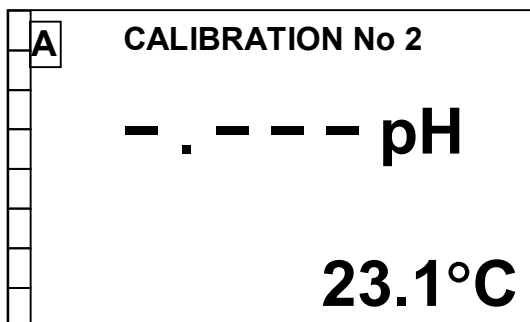

Fig. 2.6
- 9 Place electrodes and temperature sensor in fresh second buffer solution. Press the  key. The second buffer solution shall be identified. The display shown in Fig. 2.6 shall come up.